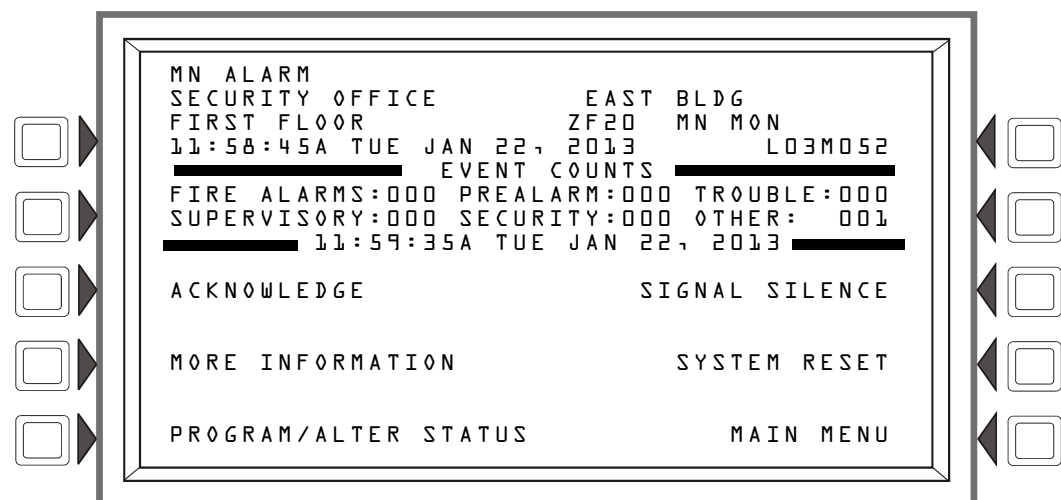

Figure 2.10 Mass Notification Alarm Message Display Example
- Displays MN ALARM in the upper left corner of the display, a Type Code that indicates the type of device that activated the fire alarm, and other information specific to the device. The message occupies the top four lines of the screen, replacing the System Normal message as shown in Figure 2.10 below. Refer to “Mass Notification Events” on page 16 for a full description of each message field